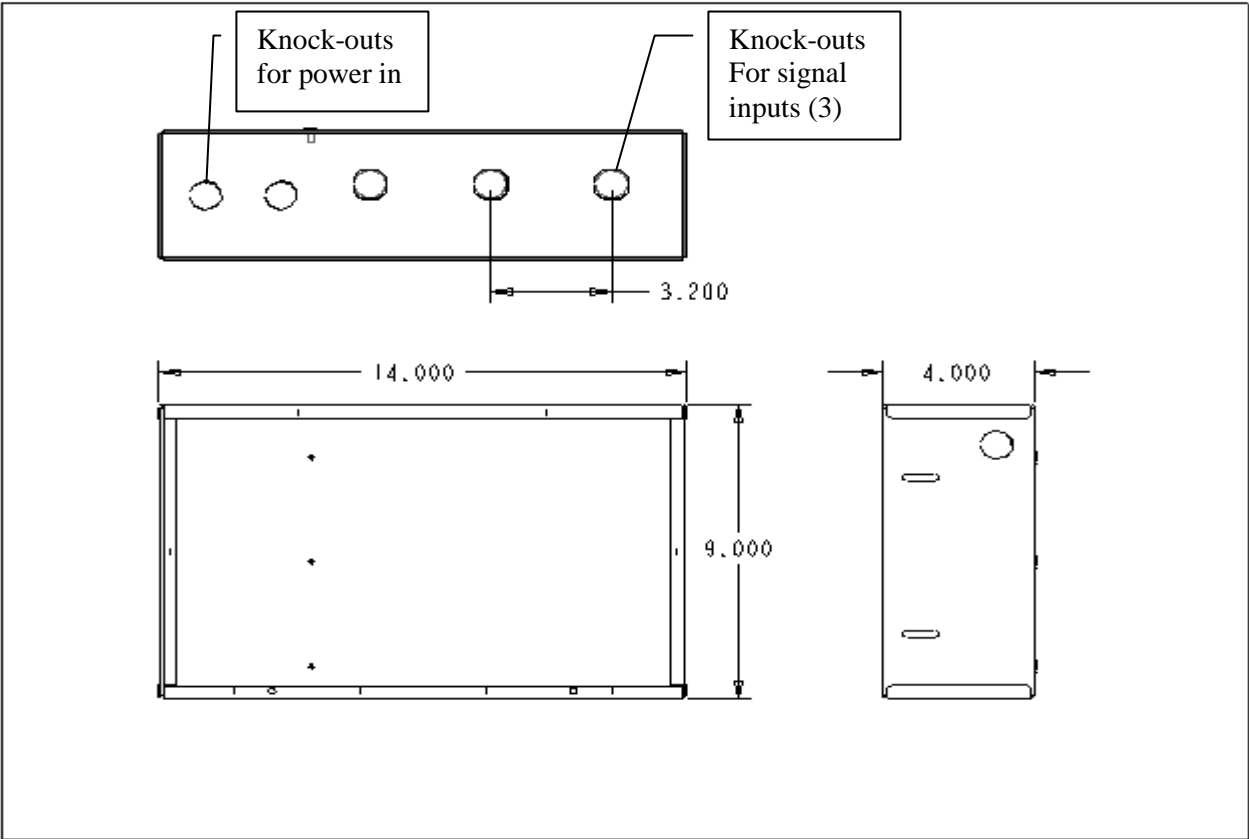

Figure 4, 3-Module Back Box
3.1.1.1 The first back box (Figure 4) is 14.0 inches long and will accommodate one Control Module and three other modules.